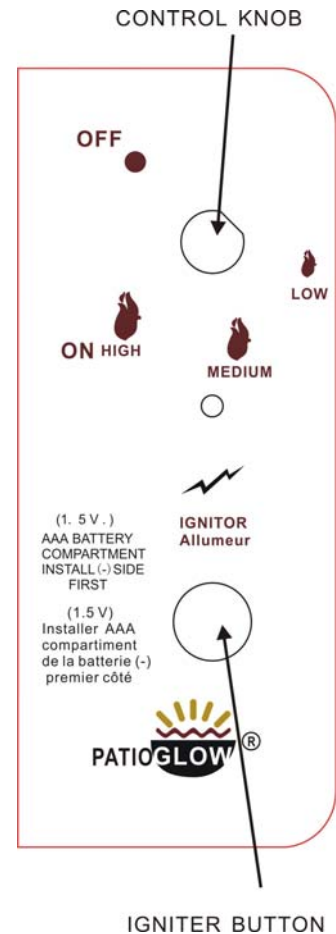

Figure 10
1. Locate the control and igniter panel. Make sure the control knob is in the "OFF" position. See Figure 10. Open the tank door and open the tank valve all the way.
2. Push in the igniter button. You will hear a slight clicking sound. With the igniter button pushed in, push and turn the control knob to the "ON" position. The fire should light within a few seconds. Once the flame is lit, release the igniter button and continue to hold the control knob in for 10 to 15 seconds. Release the control knob. The control knob should pop back out and the fire should remain lit. Note: If the fire does not light, turn the knob to the "OFF" position and wait five (5) minutes before trying again.